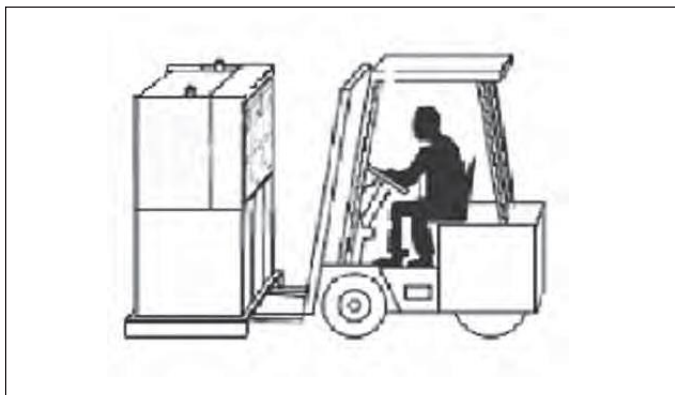
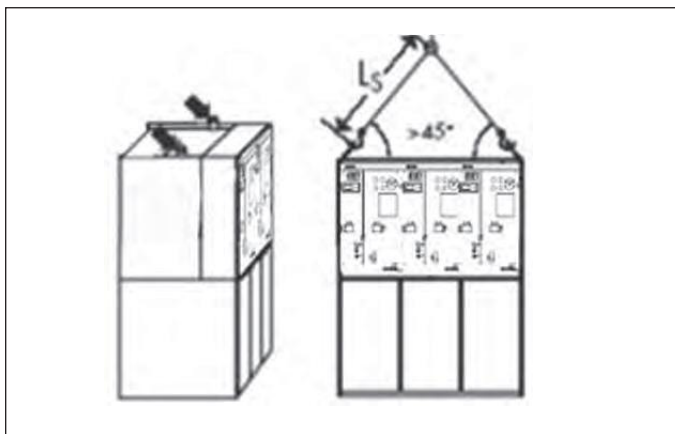

Figure 10.1 Forklift handling example
Figure 10.2 Crane handling example
- 1.3. In the case of handling by hand-push type forklift or by freight forklift, the switchgear should be put onto the transportation pallet (see Figure 10.1). In the case of crane handling, the lifting hook of the crane should be hooked into the two lugs on the top of the switchgear. The angle between the lifting rope and the top of the cabinet shall exceed 45° (the angle between the lifting rope and the plumb line shall not exceed 45°), so as to avoid any deformation to the cabinet or the lug (see Figure 10.2).